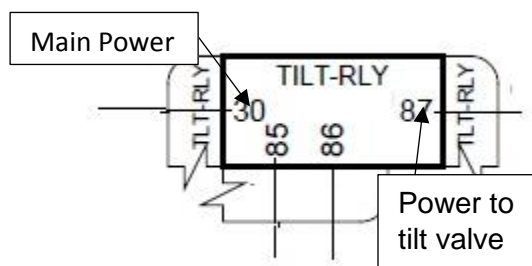

Figure 132
3. If 12 volts is not present check for power at Pin 87 on the tilt relay found on the panel above the air tank. Figure 132